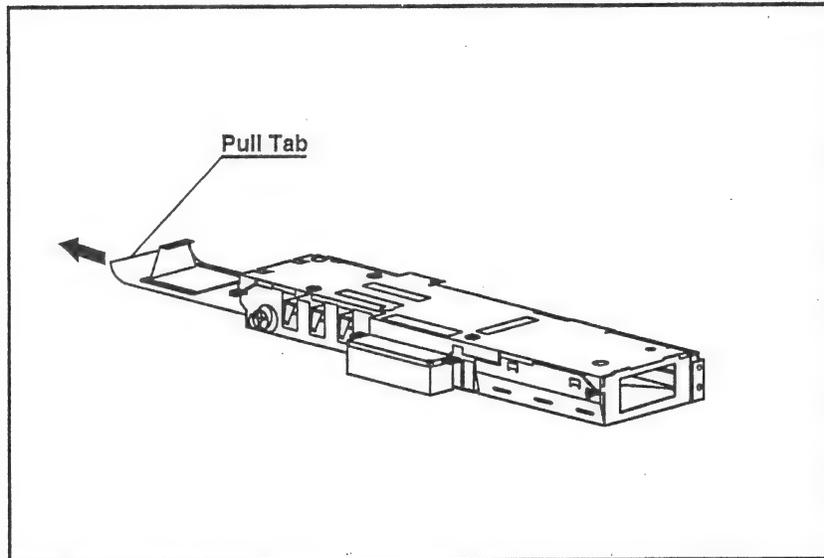

Figure 2-55. Removing the Power Supply
6. Remove the power supply by grasping its edges (Figure 2-55).